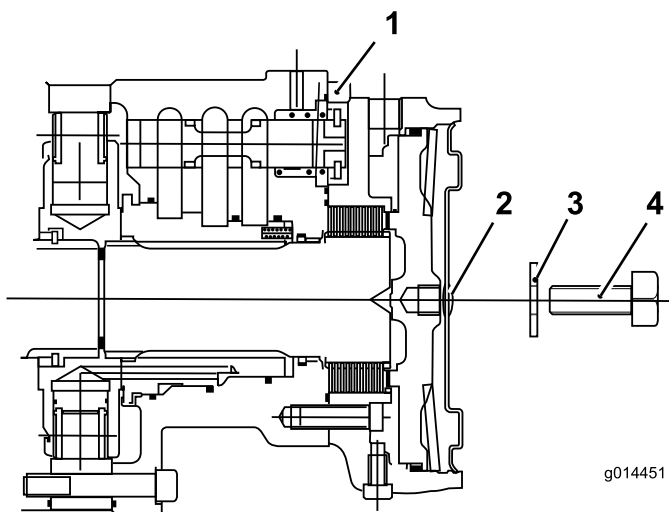

Figure 45
7. Assemble a bolt (12 x 40 mm) and washer (12 mm) into the hole at the center of the motor end plate (Figure 45).
8. Tighten the bolt in the threaded hole in the brake piston until the brake releases (Figure 45).